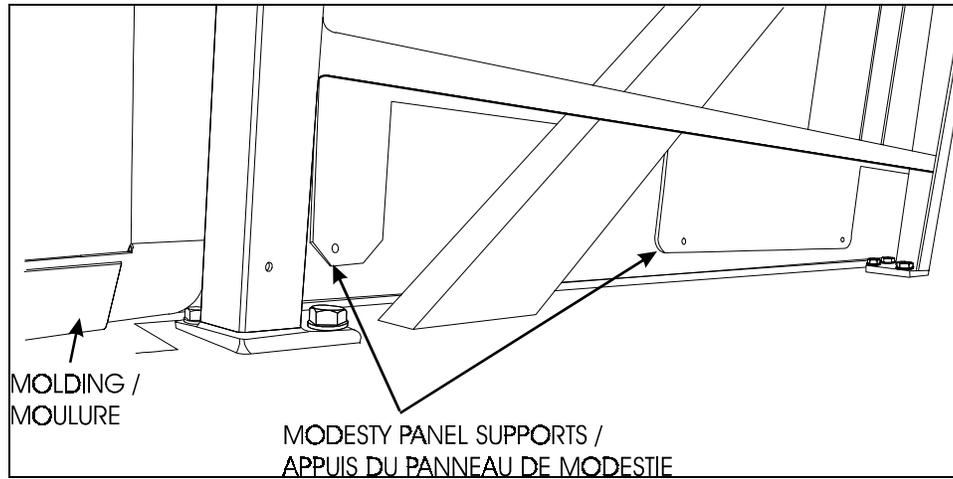

FIGURE 3
5. Slide the molding between the modesty panel (③) and the internal structure. Insert the modesty panel supports inside the folding (figure 3). Raise the flange if necessary. Make sure the rounded edge of the molding is opposite to the central alley.
6. Drill the molding, using the modesty panel screw holes for positioning (item ①).